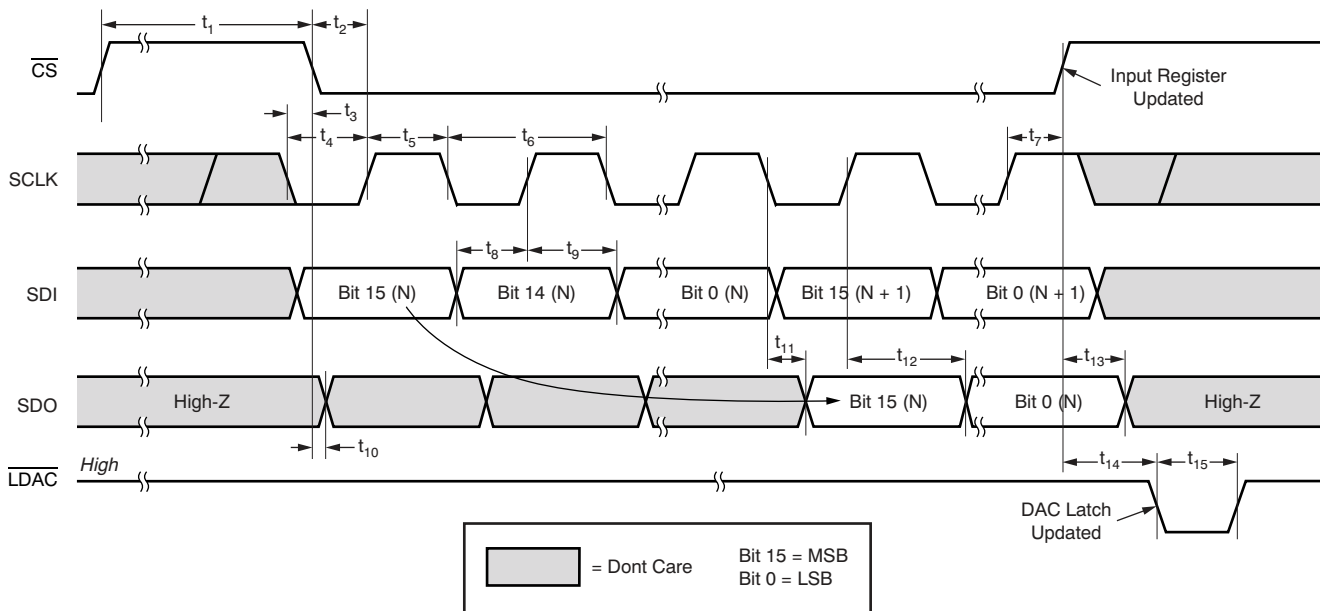

Figure 3. Timing Diagram of Daisy Chain Mode, Two Cascaded Devices
- (1) All input signals are specified with $t_{\text{R}} = t_{\text{F}} = 2\text{ns}$ (10% to 90% of IOV_{DD}) and timed from a voltage level of $IOV_{\text{DD}}/2$.
- (2) Specified by design. Not production tested.
- (3) Sample tested during the initial release and after any redesign or process changes that may affect these parameters.
6.7 Timing Characteristics for Figure 2 and Figure 3 ^{(1) (2) (3)}